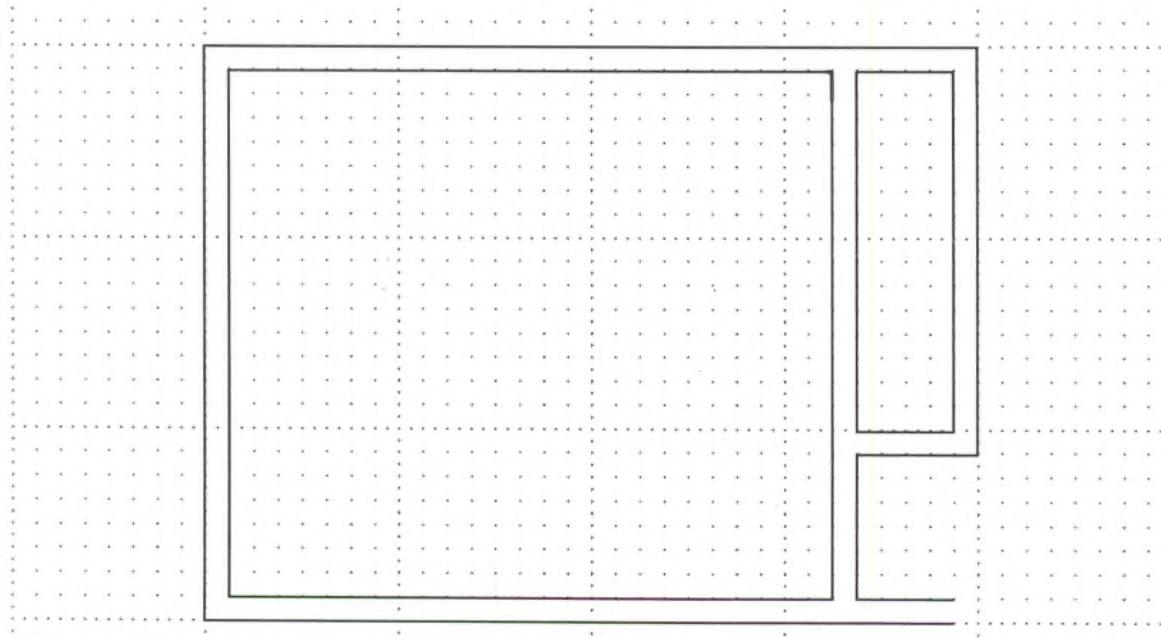

Fig. 5.1 A light-line layout of the master bedroom taken from the floor plan in Fig. 4.2.
5. Measure and draw the remaining walls of the room. Your drawing will look like Fig. 5.1.
2. By using your scale, convert the actual room measurements to 1/4" scale measurements and lay out the room on your paper. Begin by drawing a light line to represent the inside of each of the four walls. Moving back one square (6") from the first lines, draw a parallel line all the way around the outside of the first to allow for the thickness of the walls. Since the measurements you made were for the inside of the room, the overall measurements of the drawing will be about 12" larger, allowing for the thickness of the two walls. (Refer to Fig. 5.1.)